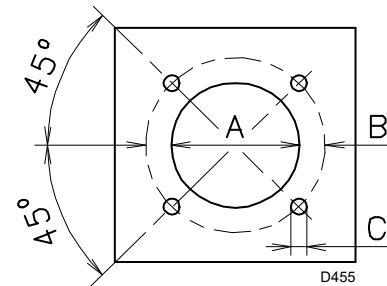

Fig. 13
Drill the combustion chamber locking plate as shown in Fig. 13 (Tab. M). The position of the threaded holes can be marked using the thermal screen supplied with the burner.
- Fit the entire burner onto the boiler hole prepared previously (Fig. 13), and fasten with the screws supplied.